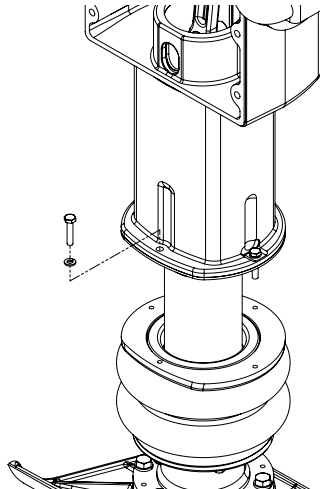

Fig 2
6. Remove the gearbox assembly (#3) from the lower system. (See Fig 2)